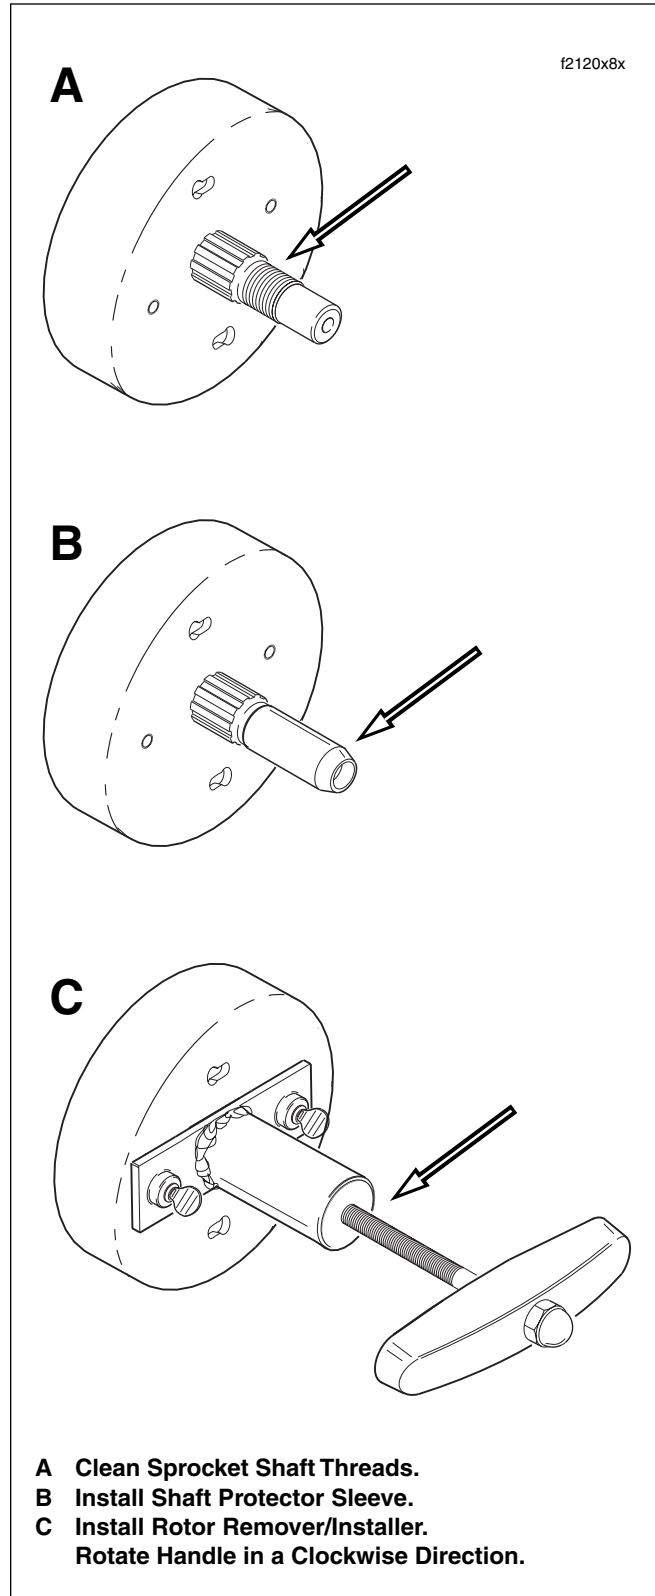

Figure 8-12. Remove Rotor from Engine Sprocket Shaft
- a. Verify that threads of engine sprocket shaft are clean, especially of old Loctite material. See A of Figure 8-12.
- b. Thread the Shaft Protector Sleeve onto the shaft. See B of Figure 8-12.
- c. Turn thumbscrews of Rotor Remover/Installer into threaded holes in rotor face. See C of Figure 8-12.
- a. Install the Shaft Protector Sleeve and Rotor Remover/Installer, if removed. See Figure 8-12.